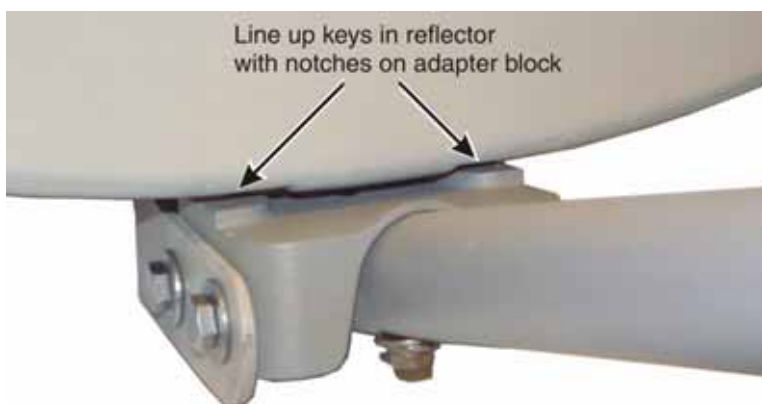

Figure 13: Aligning the reflector with the adapter block
1. Place the reflector in position on the reflector bracket so that the two keys on the bottom of the reflector fit into the corresponding notches on the adapter block as shown in Figure 13.